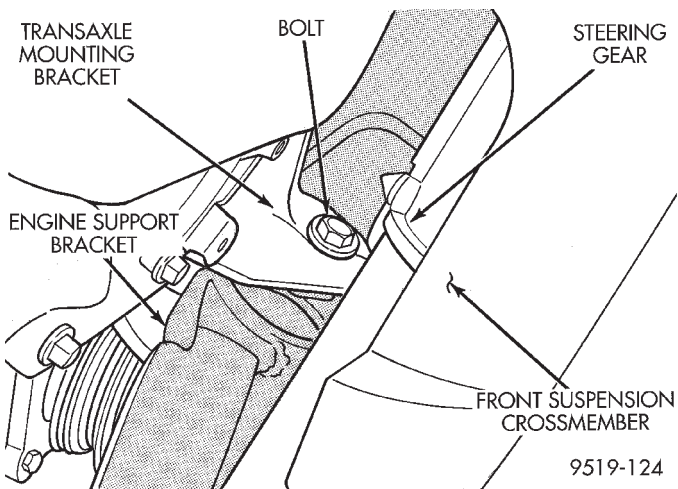
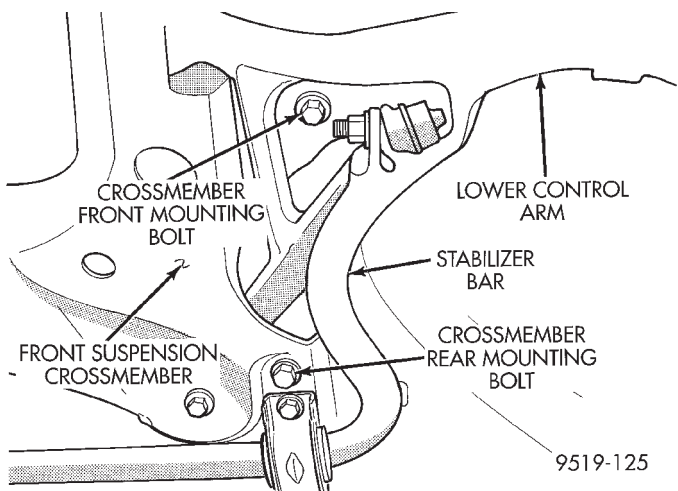

Fig. 16 Engine Support Bracket To Transaxle Bracket Bolt
Fig. 17 Crossmember To Body Attaching Bolts
(16) Remove bolt (Fig. 16) attaching engine support bracket to the transaxle mounting bracket.
(17) Position a transmission jack under the center of the front suspension crossmember. Transmission jack is used to lower, support and raise front suspension crossmember when removing steering gear assembly.
(18) From each side of the vehicle, remove the 2 bolts attaching the front and rear of the front suspension crossmember to the frame rails of vehicle (Fig. 17).
(19) Using transmission jack, lower front suspension crossmember enough to allow steering gear to be removed from crossmember. **When lowering front suspension crossmember, do not let crossmember hang from lower control arms, weight of crossmember must be supported by the transmission jack.**
(3) Using transmission jack, raise front suspension crossmember and steering gear against body of vehicle. Start the 2 rear bolts (Fig. 17) into tapping plates, attaching front suspension crossmember to body of vehicle. Then install the 2 front bolts, (Fig. 17) attaching front suspension crossmember to frame rails of vehicle. Tighten the 4 mounting bolts evenly, until front suspension crossmember is against body of vehicle at the 4 mounting points. Then torque the 4 mounting bolts to 2 N·m (20 in. lbs.) to hold front suspension crossmember in position.
(6) Install bolt (Fig. 16) attaching engine support bracket to transaxle mounting bracket. Tighten bolt to a torque of 75 N·m (55 ft. lbs.).